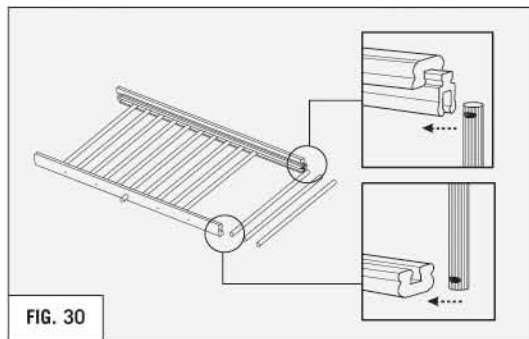

FIG. 30
4. Assemble railing by sliding the support rail into the top rail then slide the balusters into rail support and bottom rail. (REFER TO FIG. 30)